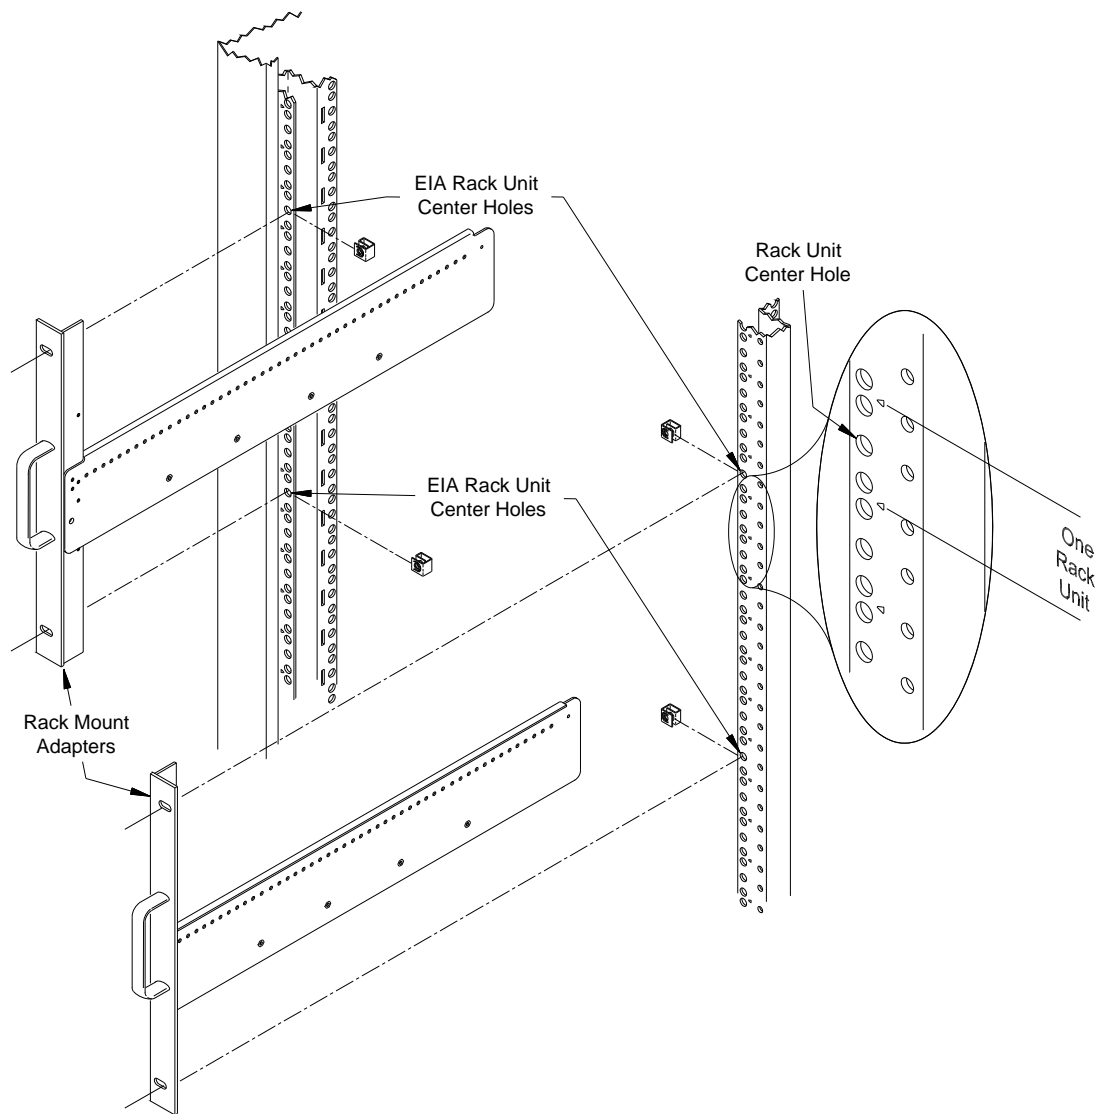

Figure 2-2. Positioning the Mainframe in the Rack
2. Using the rack mount adapters as templates, position the adapters on the rack's vertical rails where the mainframe is to be mounted. Align the adapter holes over the "center" holes of the EIA rack units (Figure 2-2).